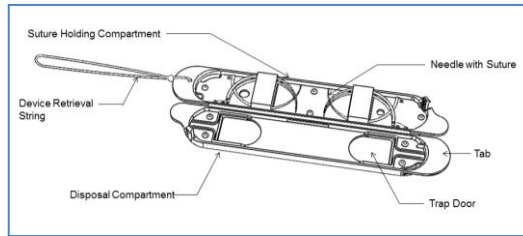

Figure 3 - View of StitchKit® Device when it is open
- 4.2. Insert device through the trocar (Figure 3) and transfer it to the surgeon-controlled robotic graspers. Use caution while passing the device via the port to ensure appropriate placement of the device and avoid contact with adjacent organs. Take care to ensure that the canister does not get opened accidentally and that none of the contents spill out.